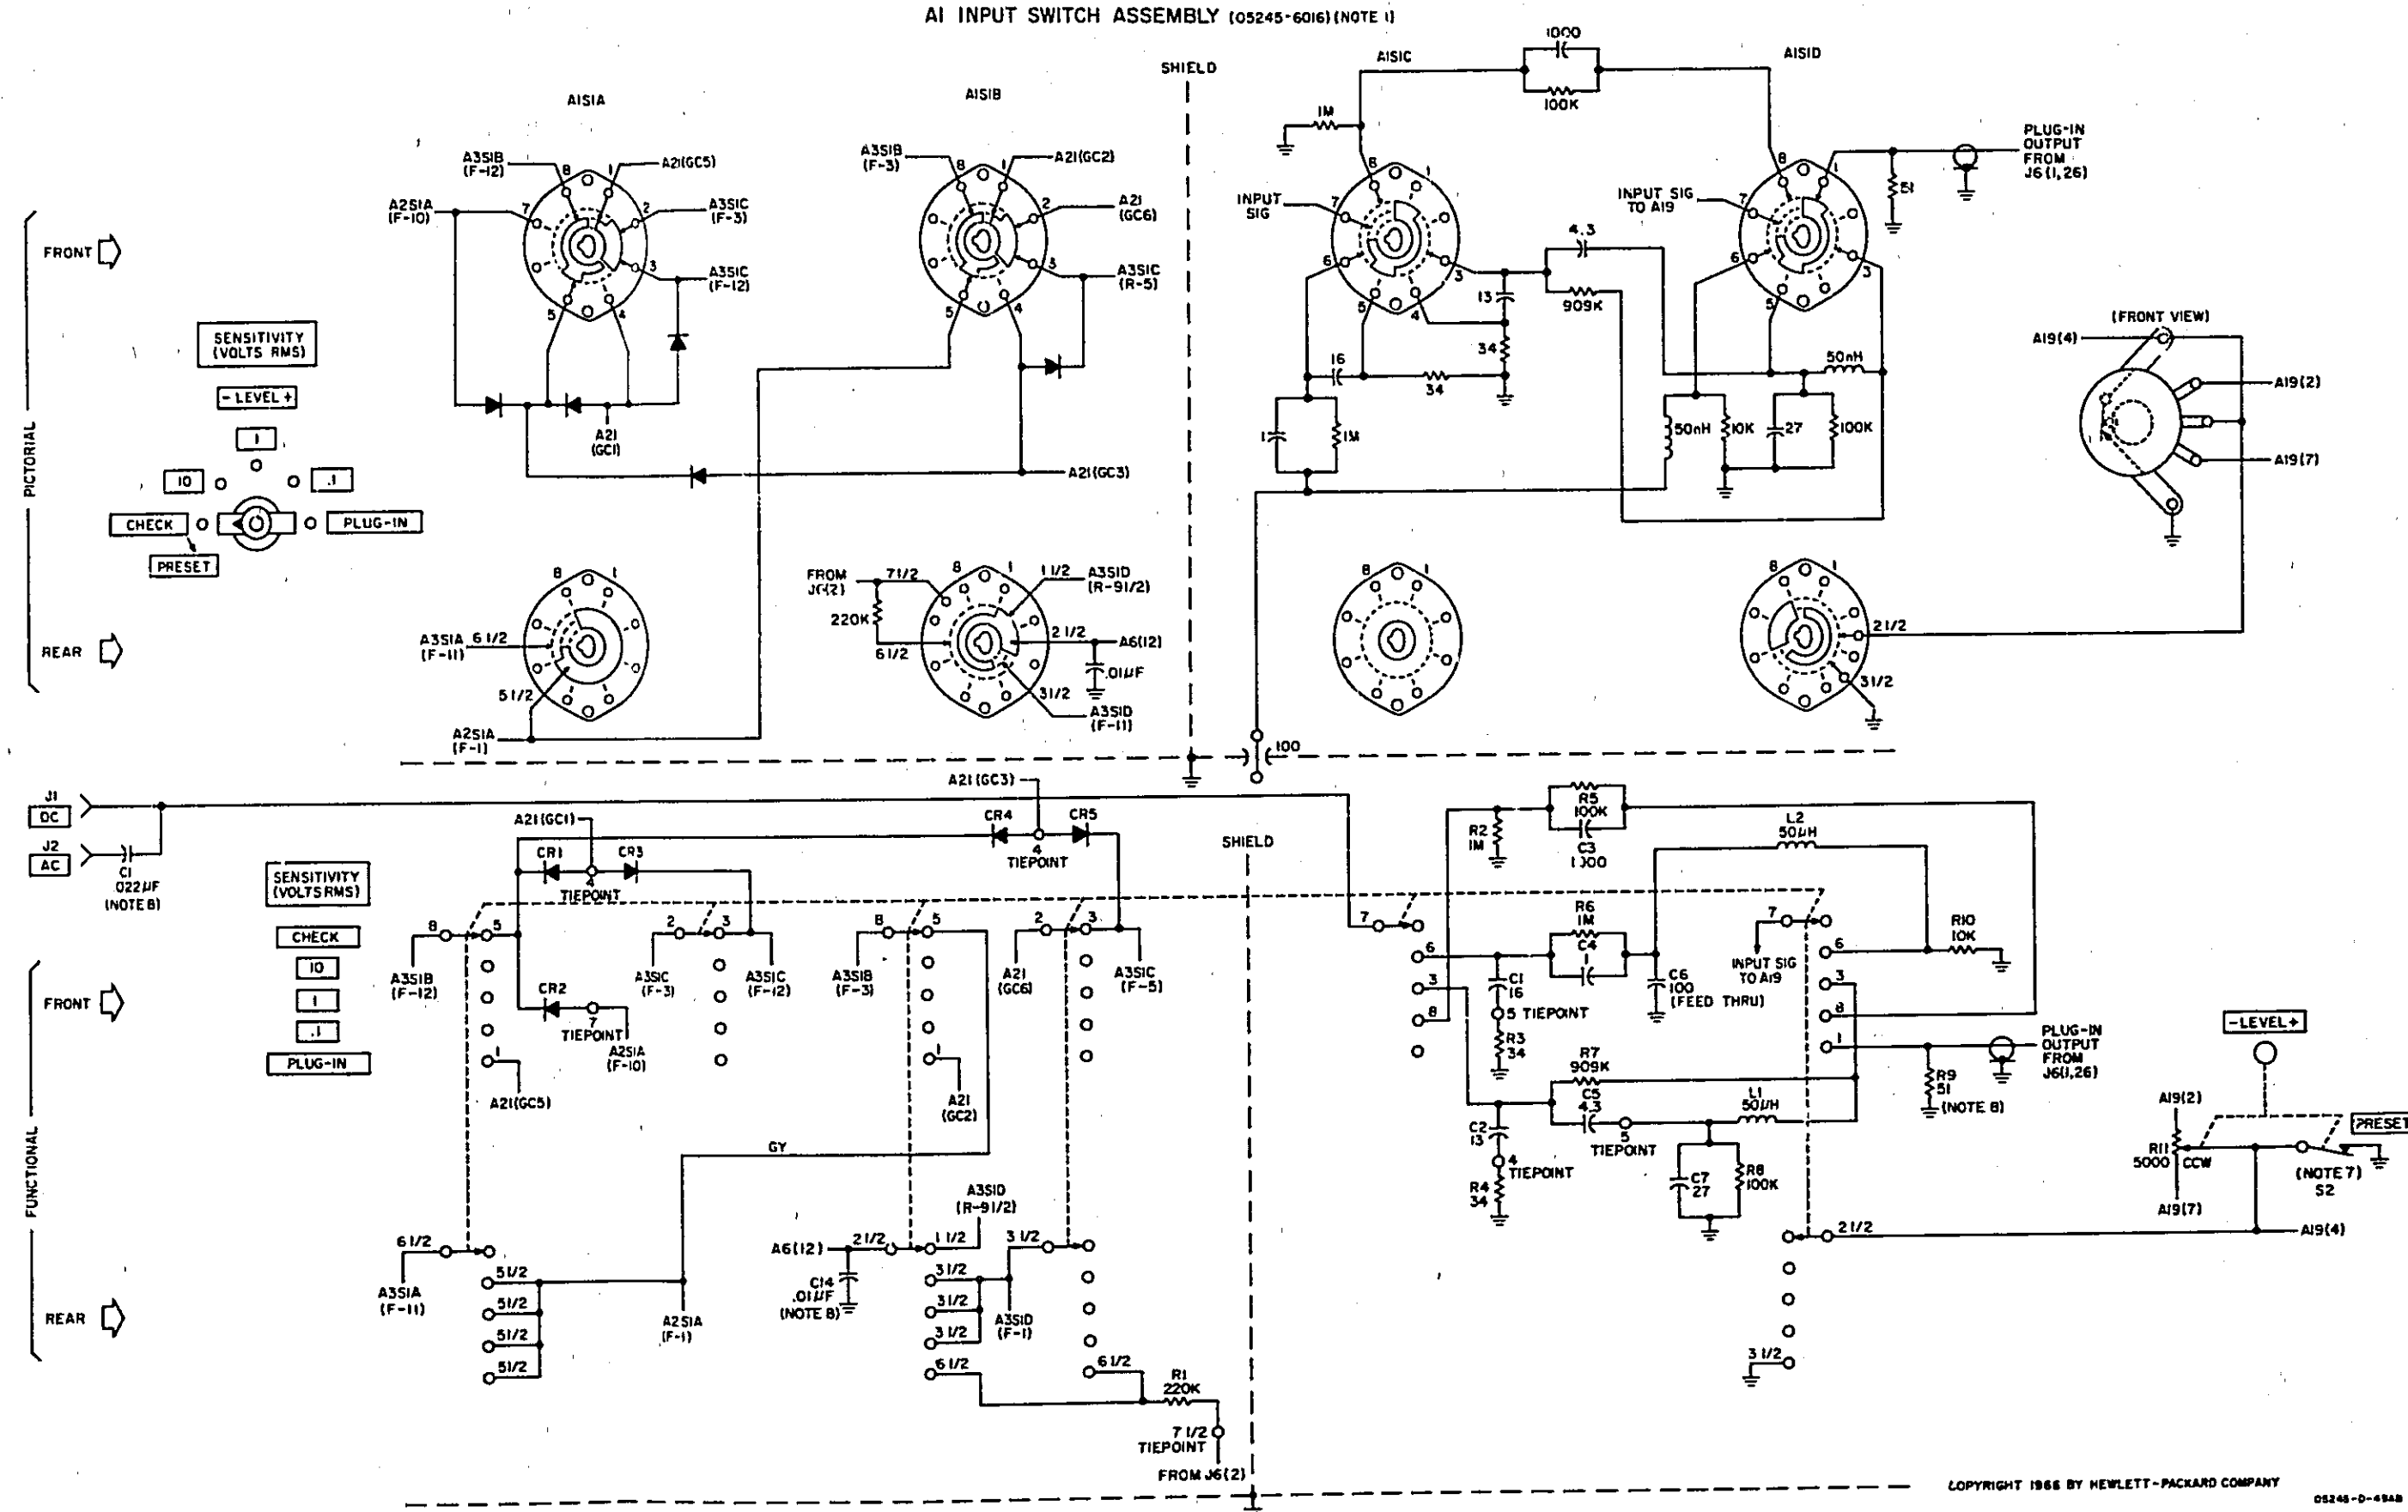

Figure 7-3. A1 Input Switch
- Schematic Diagrams and Component Location illustrations of Model 5245L circuits, assemblies and connectors in the order of their assembly designation (A1 through A35, Figures 7-3 through 7-26). These figures may also include waveforms and voltages.